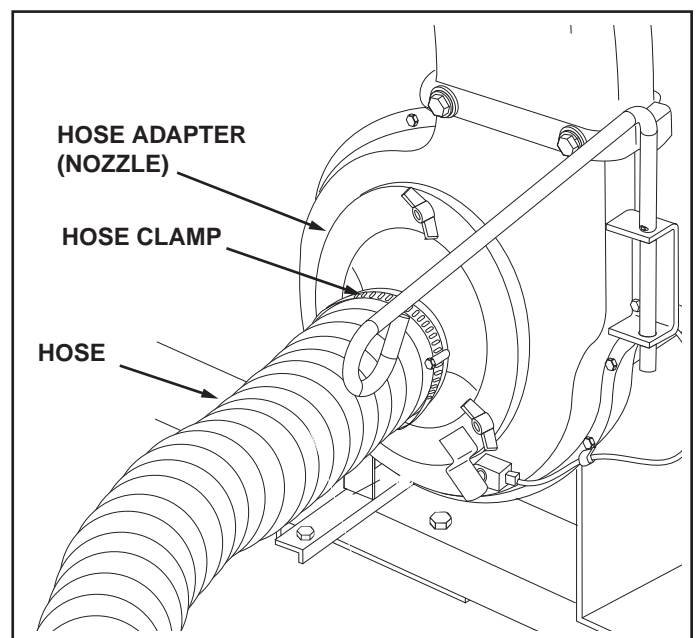

FIGURE 10
- Place a hose clamp onto the end of the hose. Push the hose onto the hose adapter (nozzle). Tighten the hose clamp onto the hose and hose adapter. Do not collapse the hose adapter when tightening the clamp. See figure 10.